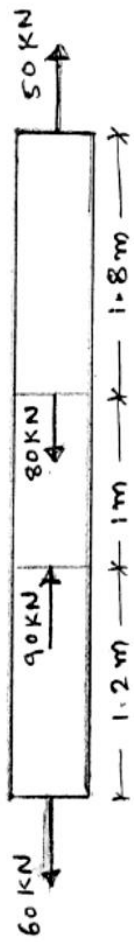

FIGURE: 1
- (b) Find change in length for specimen shown in fig.1. also draw free body diagram . If $E = 2 \times 10^5 \text{ N/mm}^2$ and diameter of bar is 25 mm. **07**